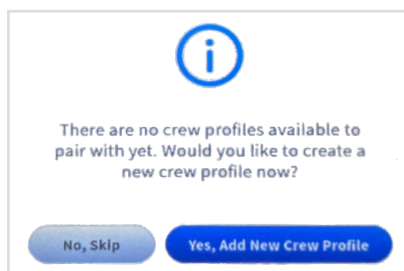
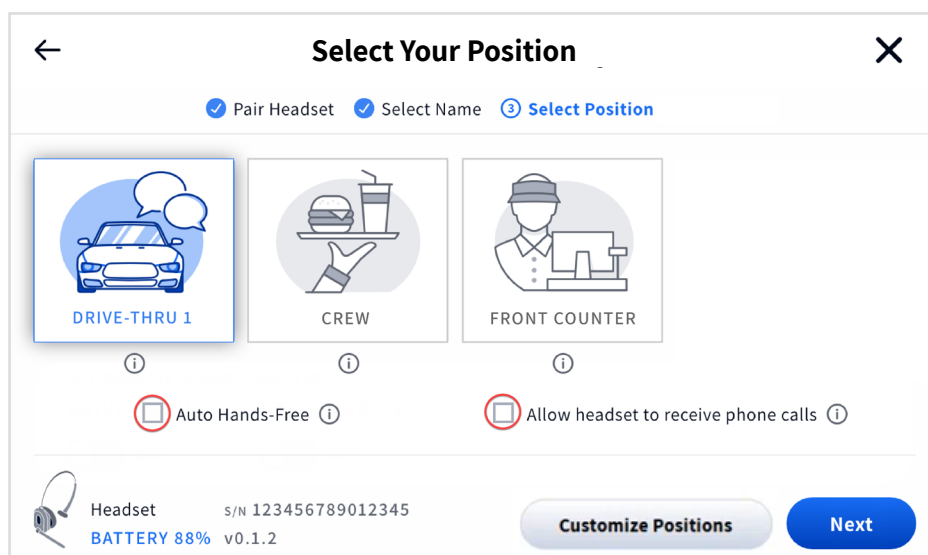

Fig. 1.22
Fig. 1.24
- ** The person you are calling must be enrolled in the Crew Profile directory and wearing a headset. See Fig. 1.22 for example. You cannot call an individual if they are using the headset but not enrolled (i.e., the user selected “Continue as guest” when pairing). First names, last names, or full names can be used. For example, if there are two crew members with the same first name, then the headset will prompt you to use the last name of the person you wish to talk to. The receiver must tap the Action key () on their headset to answer. To end the call, either person can tap the Action key () and exit this state.
Once your headset is successfully paired, one of two dialog boxes appears. If there are no crew profiles set up in the system, then Fig. 1.22 will appear. Tap the **No, Skip** button to continue as a guest (this will open the “Select Your Position & Options dialog,” see Fig. 1.24). Or, tap the **Yes, Add New Crew Profile** button (this will open the Create Crew Profile dialog, see “Chapter 2 - Crew” on page 16 and Fig. 2.2).
When the **Select Your Position** dialog appears (Fig. 1.24), you are prompted to select a position. Tap on one of the available tiles to select it (DRIVE-THRU 1 is selected in Fig. 1.24). If you are selecting the DRIVE-THRU position, you also have the option of **Auto Hands-Free** mode (the first checkbox located below the position tiles). This allows you to connect with a new customer without having to connect manually by tapping the headset keypad.
The other checkbox option is **Allow headset to receive phone calls** (see Fig. 1.24). Stores that have a landline telephone may wish to have it connected to the NEXEO system so that a NEXEO headset can be used to receive incoming phone calls. When this box is checked, the  (Action) key on a designated headset keypad can be used to answer incoming calls. Only one headset can be designated to receive phone calls, and your system must have a TI7000 installed. The TI7000 is a Telephone Interface module used to connect the store telephone to the base station. The TI7000 must also be enabled on the base station. See **Telephone Interface** under “Settings” on page 27.